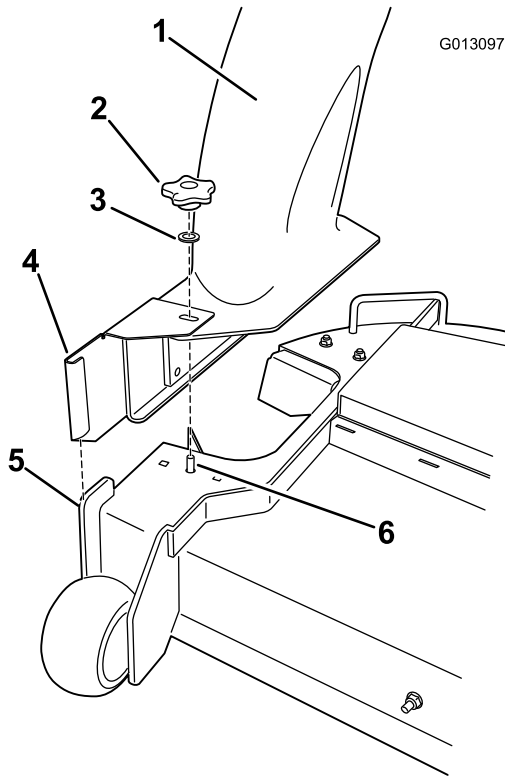

Figure 18
Note: Ensure that the opening in top of the chute aligns with the exposed post on the mower deck top and the forward vertical plate mates with the folded metal bracket of the chute (Figure 18).
- Install a washer and hand knob over the post coming through the chute top (Figure 18).